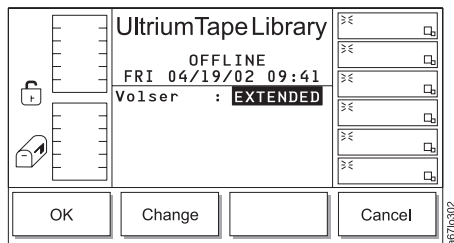

Figure 4-206. Media Dialog with the Volser field set to EXTENDED
4. Press the button below the **Change** softkey so that the Volser field changes to EXTENDED (see Figure 4-206).